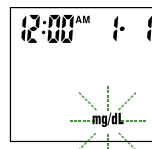
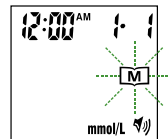

Figure 14
Figure 15
See Figure 14. Press and hold the "M" button for (4) seconds until the unit of measurement you are choosing appears on the display. Press the "SET" button and the memory segment will start flashing. See Figure 15. To skip this step, press the "SET" button.